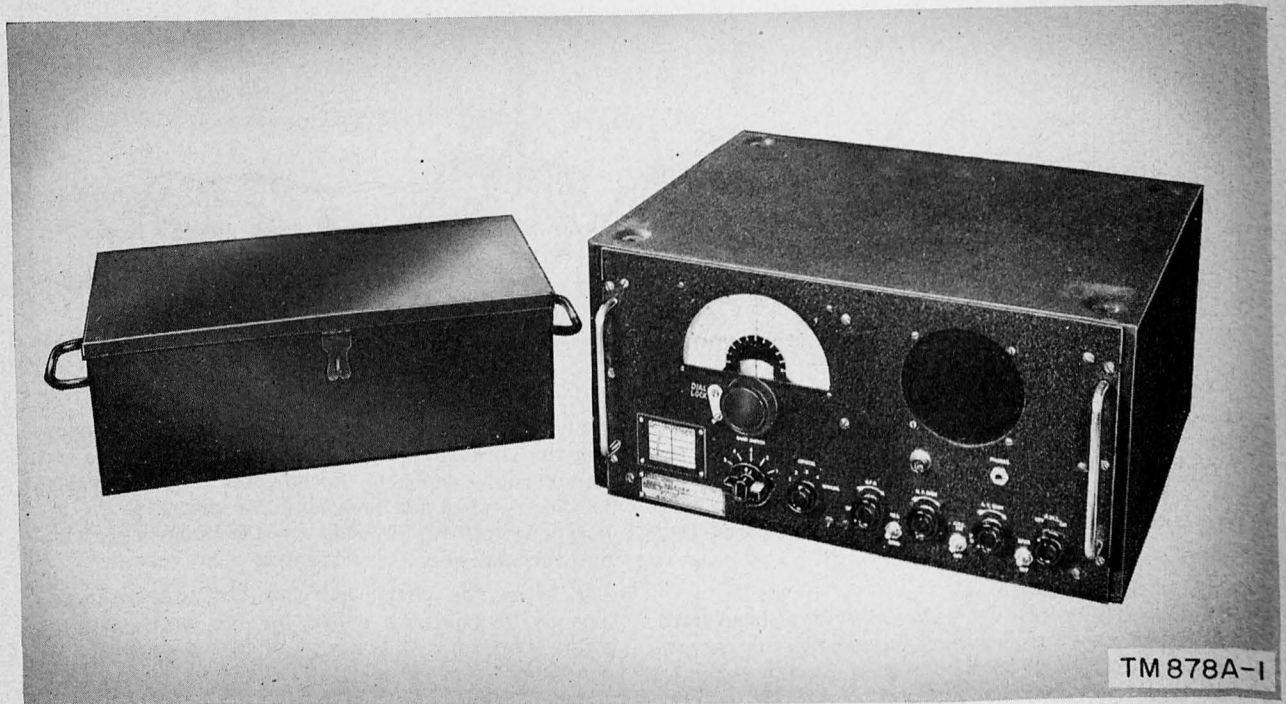

Figure 1. Radio Receiver R-96A/SR and spare parts box.
a. This manual contains instructions for the installation, operation, maintenance, and repair of Radio Receiver R-96A/SR (figs. 1 and 2). In addition to these instructions, there are two appendixes covering a list of references and an identification table of parts.
a. Radio Receiver R-96A/SR (fig. 1) is an 11-tube superheterodyne receiver designed for marine use on harbor and seagoing vessels. The power supply is self-contained within the receiver, making the unit completely independent. The receiver is designed for satisfactory operation under the extreme conditions of temperature, humidity, and vibration, which are often encountered in marine service. It is specially treated to resist the attacks of fungi which may be encountered in tropical areas. An outside case (dust cover) is provided with each receiver so that it can be mounted on a desk or table.
7. Table of Components (fig. 1)